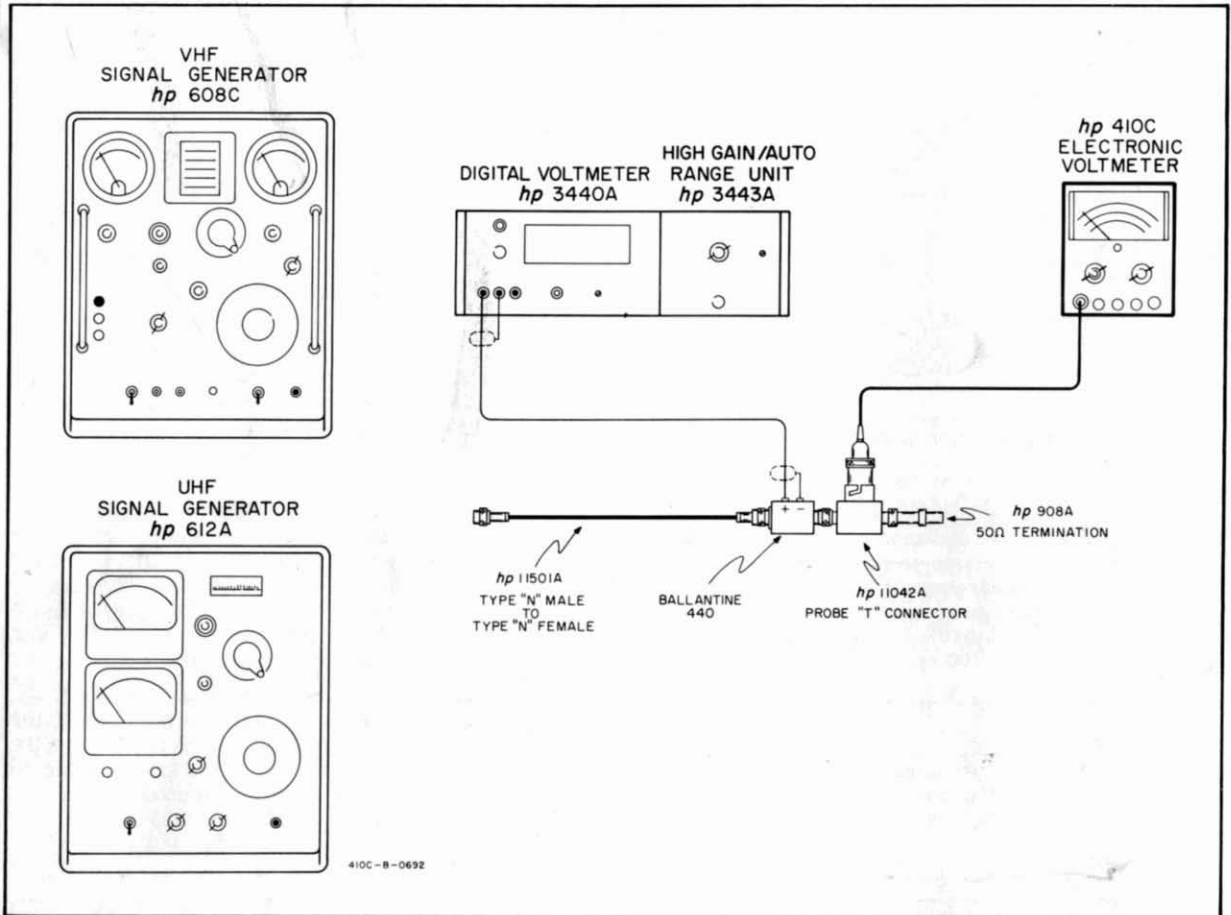

Figure 5-4. High Frequency Response Test
a Probe-T-Connector (-hp- Model 11042A), a Micropotentiometer (Ballantine Model 440), and a DC Voltmeter (-hp- Model 3440A/3441A) are required for this check. Figure 5-4 describes test arrangement to be used.
- d. Replace VHF oscillator with UHF oscillator in Figure 5-4. Repeat steps b and c for UHF oscillator output frequencies from 480 Mc to 700 Mc.